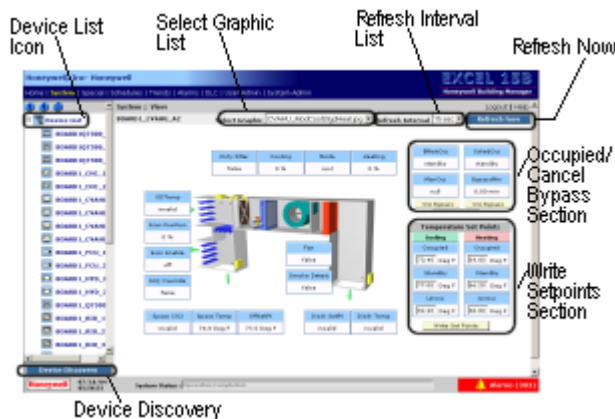

Fig. 5. System::View Page
Each device point values are read and displayed in non-editable databoxes at specified intervals. By default, the point values are updated every 15 seconds. You can also customize the frequency at which the "System::View" page is refreshed by selecting it from the "Refresh Interval" list. The minimum refresh interval is "15 secs" and the maximum is "5 mins". Refer to Fig. 5 to know the location of "Refresh Interval" list on the "System::View" page. Also, you can replace the device's default graphic with a graphic of your choice.
2. Select the device or object whose graphic you want to change (refer to Fig. 5).
2. Select the device or object whose setpoints you want to change (refer to Fig. 5).
2. Select the device or object whose occupancy mode you want to change (refer to Fig. 5).